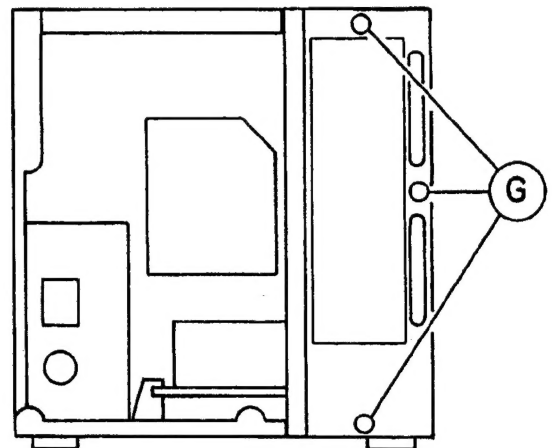

Fig. 6
- (1) Remove the 3 screws ③ of Fig. 6 to remove the AV terminal.